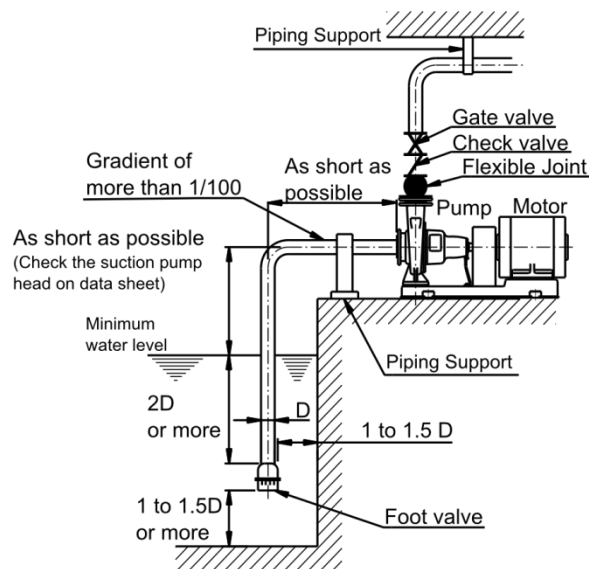

Fig.2 Installation view
- (1) The pump should be installed to piping by **Fig. 2**.